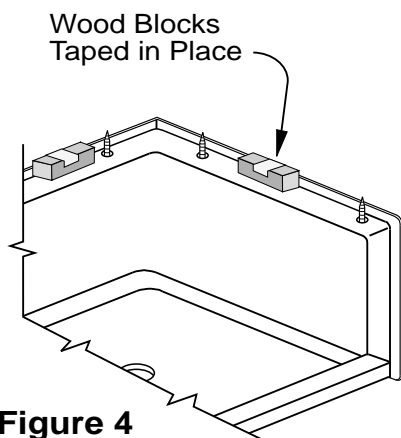

Figure 4
22. Use 6 wooden 2 x 2 blocks spaced evenly along the top connection surface of the shower base. These blocks will hold the wall sections above the mounting surface until you are ready for final installation. Use masking tape to temporarily secure the blocks. See Figure 4.